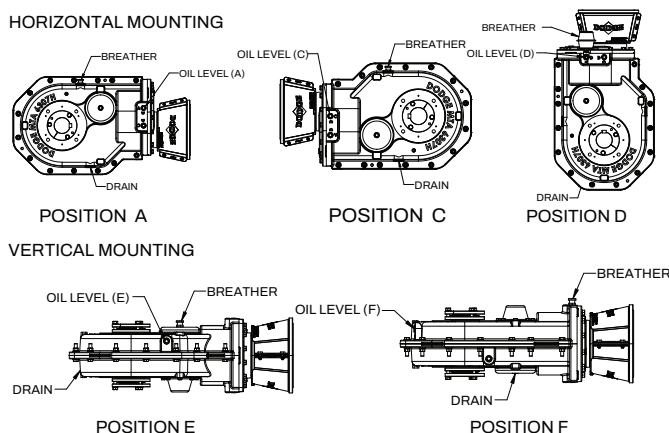

Figure 4 - Mounting Positions, C-Face
2. Determine the running positions of the reducer. Although the reducer may be operated in any position, the preferred mounting position is with the motor in the horizontal position (Position C) as shown in Figure 4. Position B is not recommended. Note that the reducer is supplied with seven plugs: four around the sides for horizontal installations, two plugs on the front face, and one plug on the back face for vertical installations. These plugs must be arranged relative to the running positions as follows:
Horizontal Installations—Due to the many positions the MTA reducer may be oriented, the factory-installed positions of the magnetic plug and breather may need to be relocated. The proper location for the magnetic plug is the hole closest to the bottom of the reducer. The filter breather is to be installed in the uppermost hole. Of the two remaining plugs on the sides of the reducer, the highest plug is the minimum oil level plug as shown in Figure 4.
① Refer to Figure 4 for mounting positions.
② Oil quantity is approximate. Service with lubricant until oil runs out of the oil level hole as indicated per drawings in Figure 4.
③ US measure: 1 quart = 32 fluid ounces = 0.95 liters
④ Below 15 RPM output speed, the oil level must be adjusted to reach the highest oil level plug. If the reducer position is to vary from those shown in Figure 4, either more or less oil may be required. Consult Dodge Gearing Application Engineering.
⑤ Position B is not shown OR recommended, check with the factory.